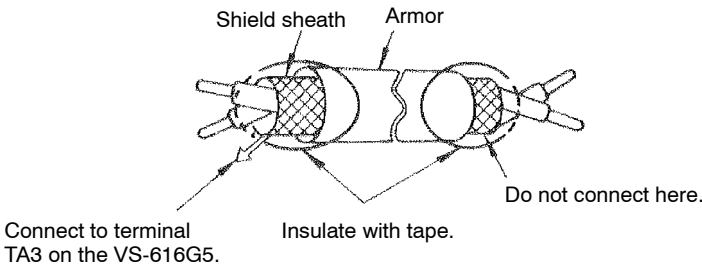

Fig 3.32 Processing the Ends of Twisted-pair Cables
2. Use twisted-pair or shielded twisted-pair cables to connect the PG to prevent operating faults. Process cable ends as shown in Figure 3.32. The maximum cable length is 100 m.